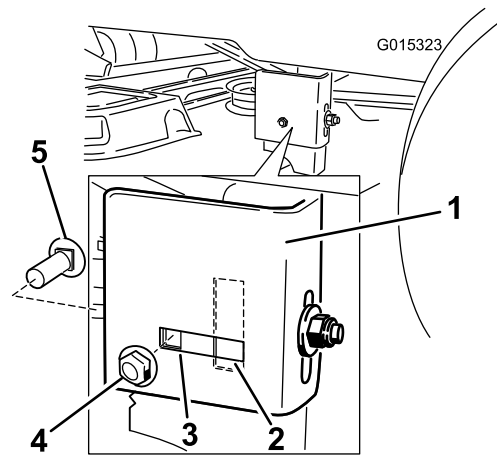

Figure 61
- Move to the left side of the machine. Check if the side carriage bolt is in the fixed or slotted position (Figure 61).
- If the side carriage bolt is in the fixed position, remove the side carriage bolt and side locking nut from the fixed position and install it into the slotted adjustment position (Figure 61).